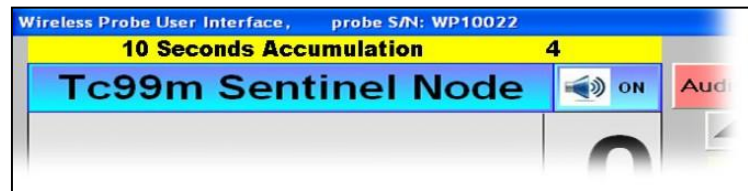

Figure 8: Accumulation Mode Banner
- **Accumulated Counts** – Pressing the *Accumulate 10 Secs* button causes counts to be accumulated for 10 seconds, and updated every 10 seconds irrespective of the *Dwell Time* setting. While in this mode, a yellow banner appears directly below the title bar identifying the accumulation mode with a count-down timer announcing the next display update. In Figure 8 at the right, there are four seconds to go until update.